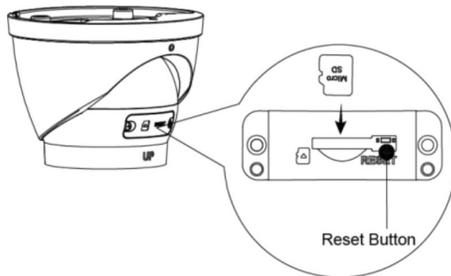

Figure 2-2
Step 3 Install the SD card as shown in Figure 2-2. Re- install the dome cover.